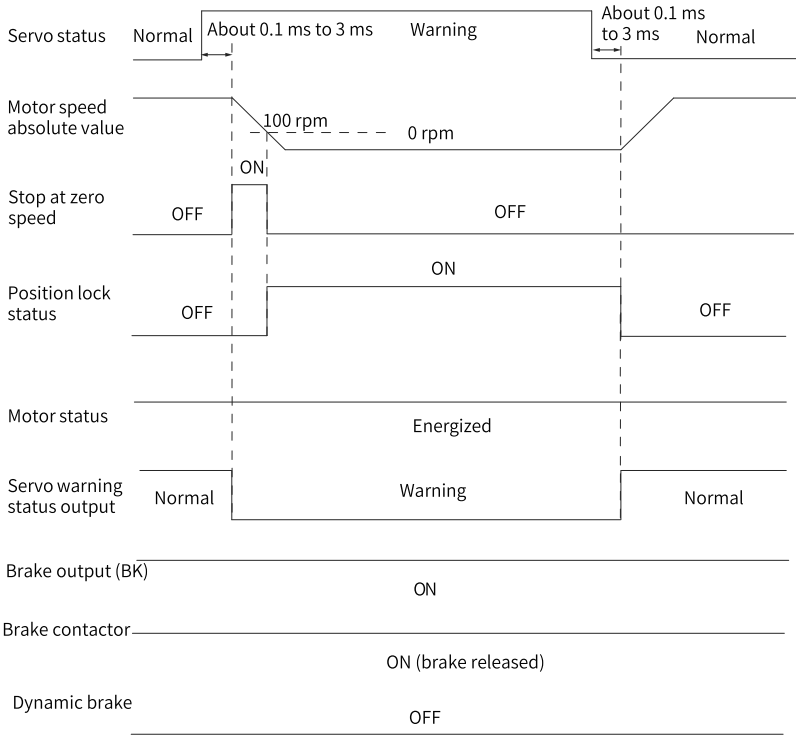

Figure 2-20 Sequence for warnings that cause stop
- When a No. 3 warning occurs on the servo drive, such as E900.0 (DI emergency braking), E950.0 (Positive limit switch warning), and E952.0 (Negative limit switch warning), the servo drive stops according to *"Figure 2-20 Sequence for warnings that cause stop" on page 67*.